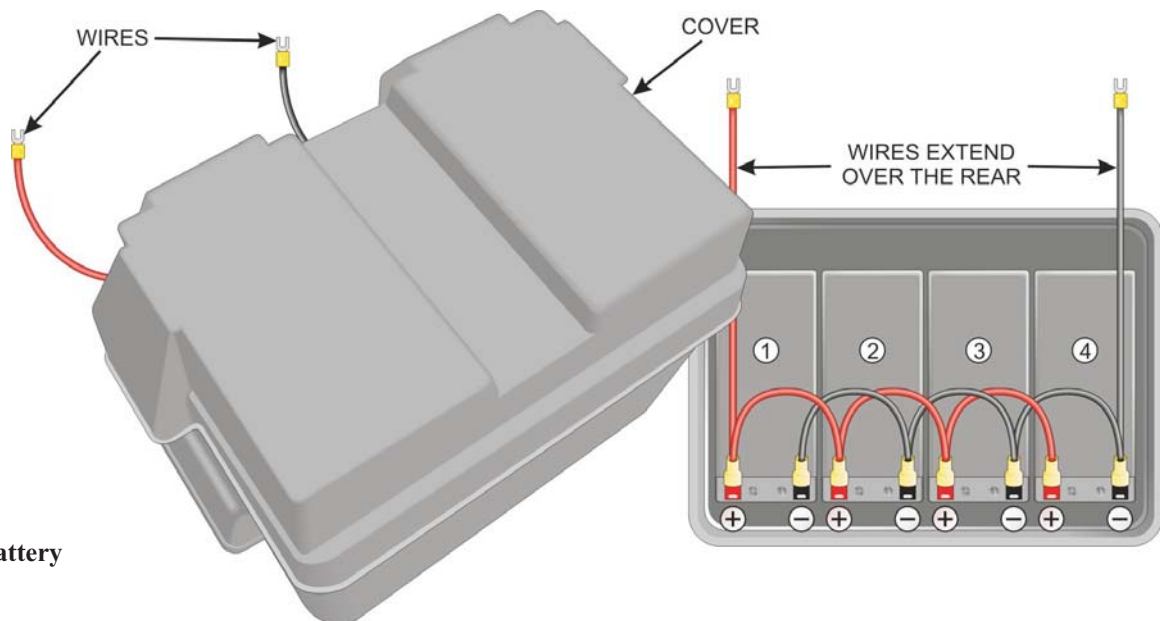

Figure 6-12:
7. Thread the external battery wires over the side of the case in positions that align with the exit openings in the side of the battery case's top cover. Fasten the top cover of the case in place with the external wires extending out of the case, as shown in Figure 6-12.